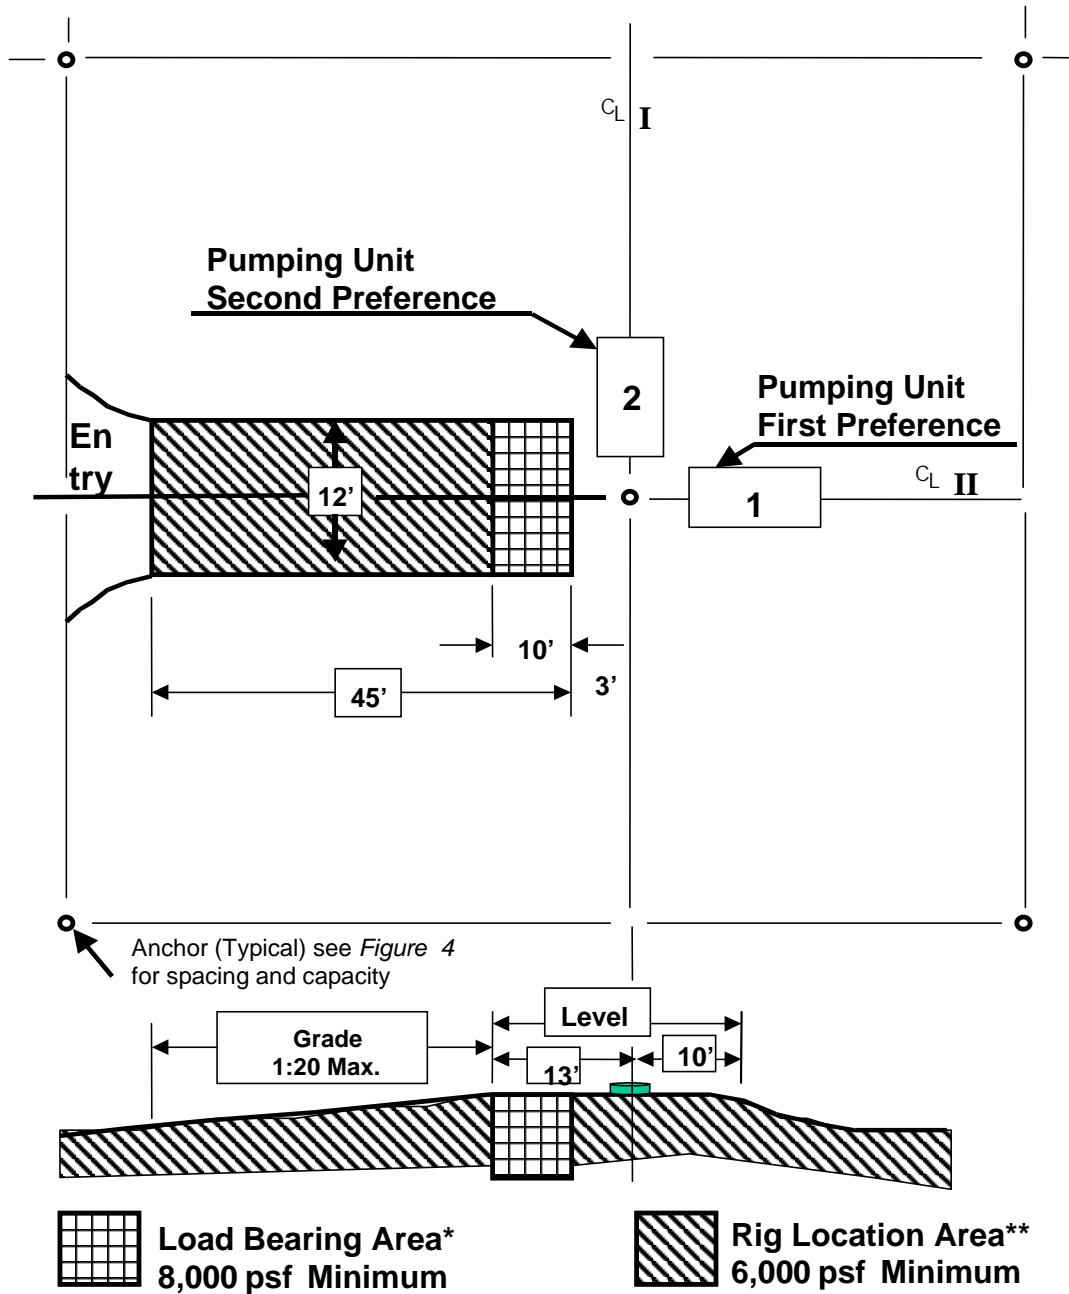

Figure 5
- Foundation design should consider the safe bearing capacity of local ground conditions, concentrated loads at the mast and rig carrier support points, supplemental footing required to safely distribute concentrated loads to the ground and location preparation. Grade the location so that oil, water and other fluids will drain away from the working area. Wet conditions and drainage ditches around the well head significantly reduce the soil bearing capacity. See **Figure 5**.